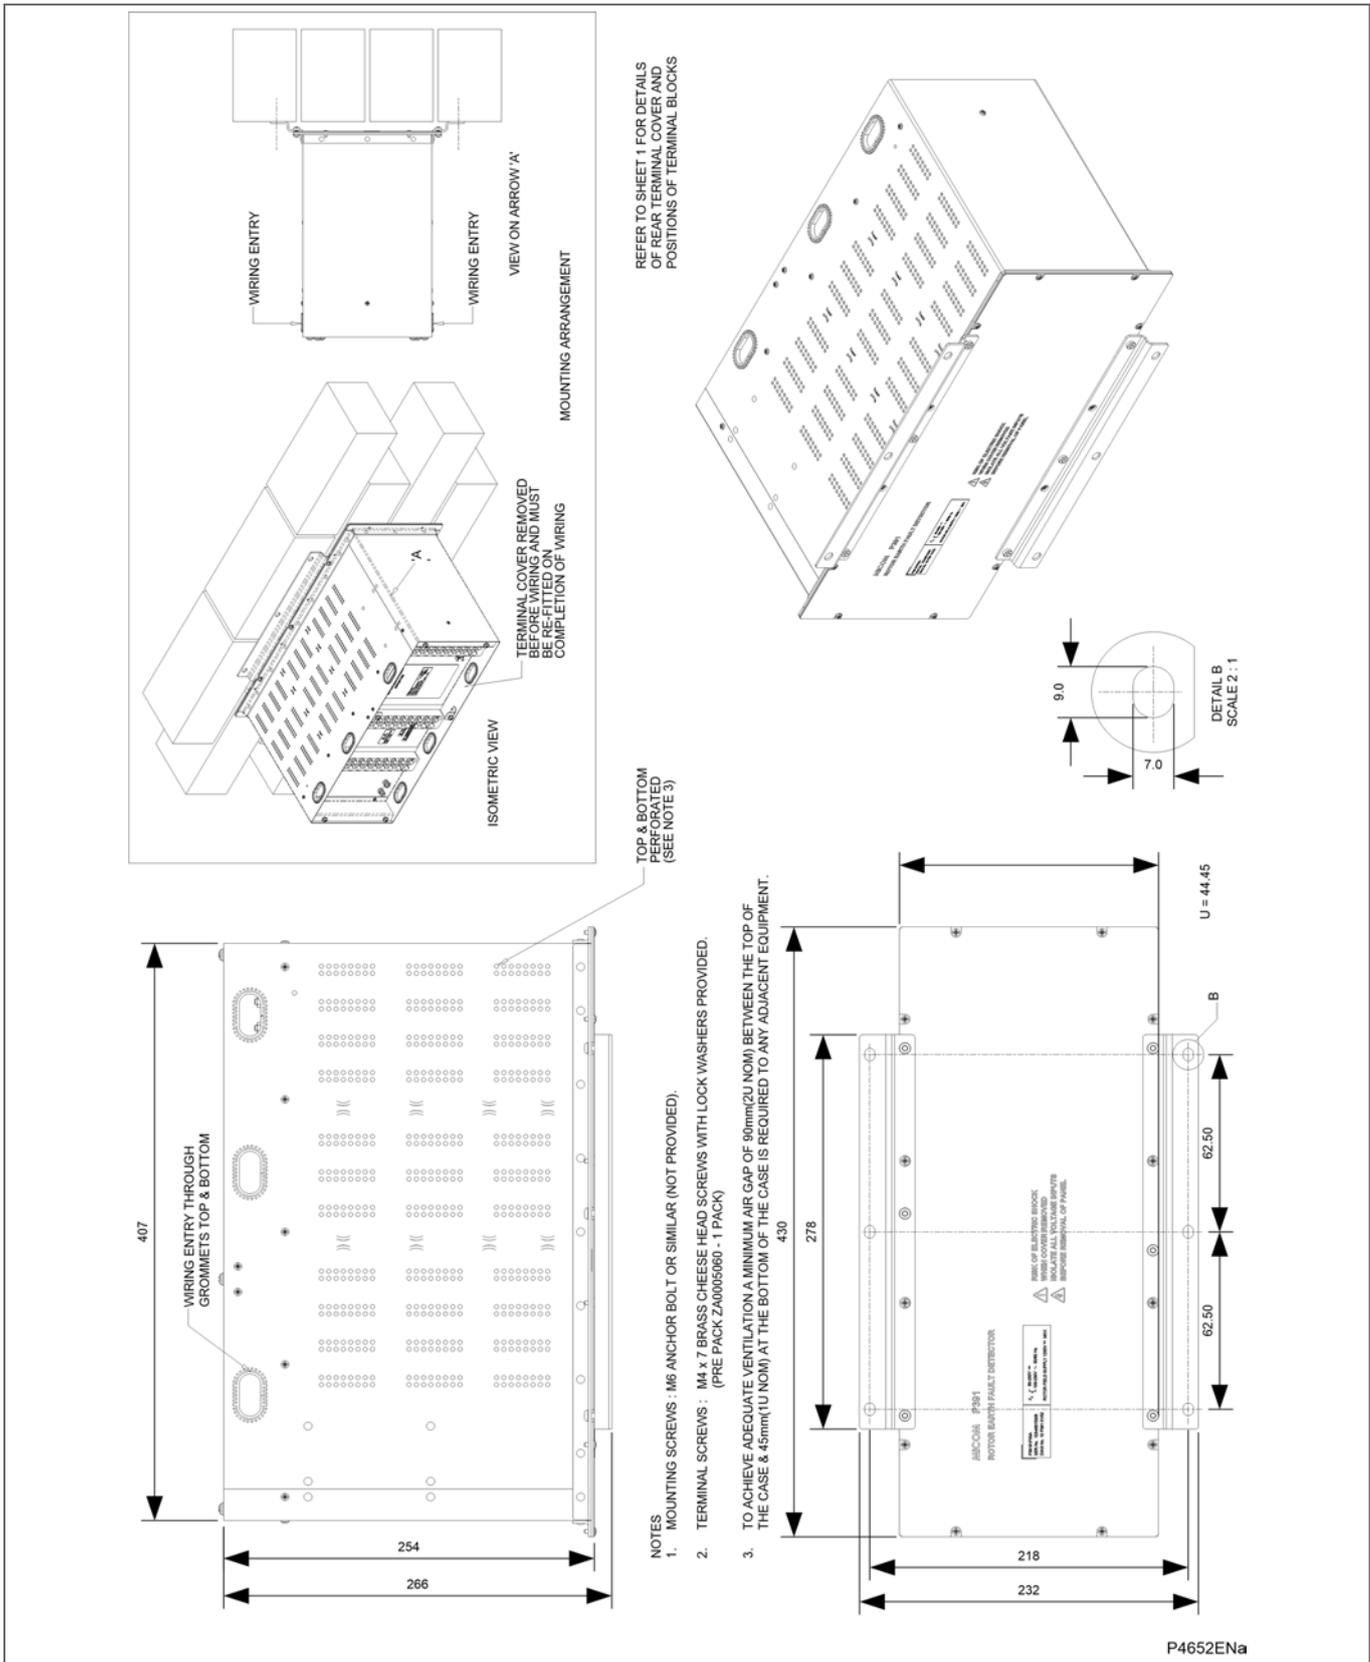

Figure 36 - P391 outline and wall mounting details (80TE case)
- Figure 36 - P391 outline and wall mounting details (80TE case)